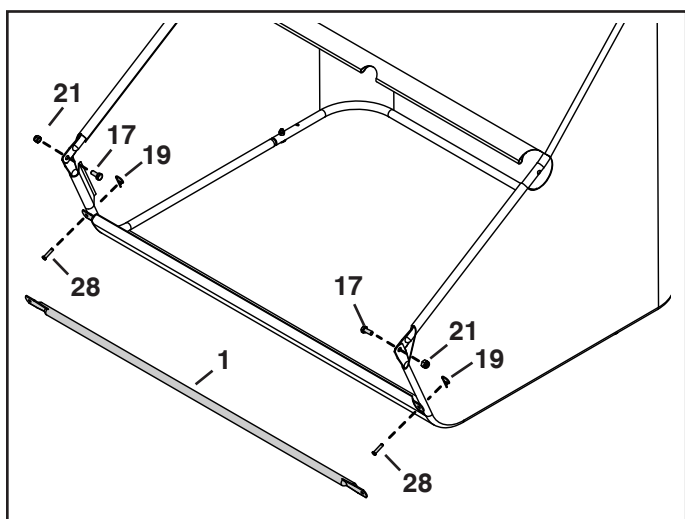

FIGURE 11
16. Slide the bag frame tube (1) through the front flap of the bag. See figure 11.
17. Secure the bag frame tube to the bottom hopper tubes using two 1/4" x 1.11" clevis pins (28) and 3/32" cotter pins (19). See figure 11.
18. Secure the top and bottom hopper tubes together using two 5/16" x 3/4" hex bolts (17) and 5/16" nylock nuts (21). See figure 11.